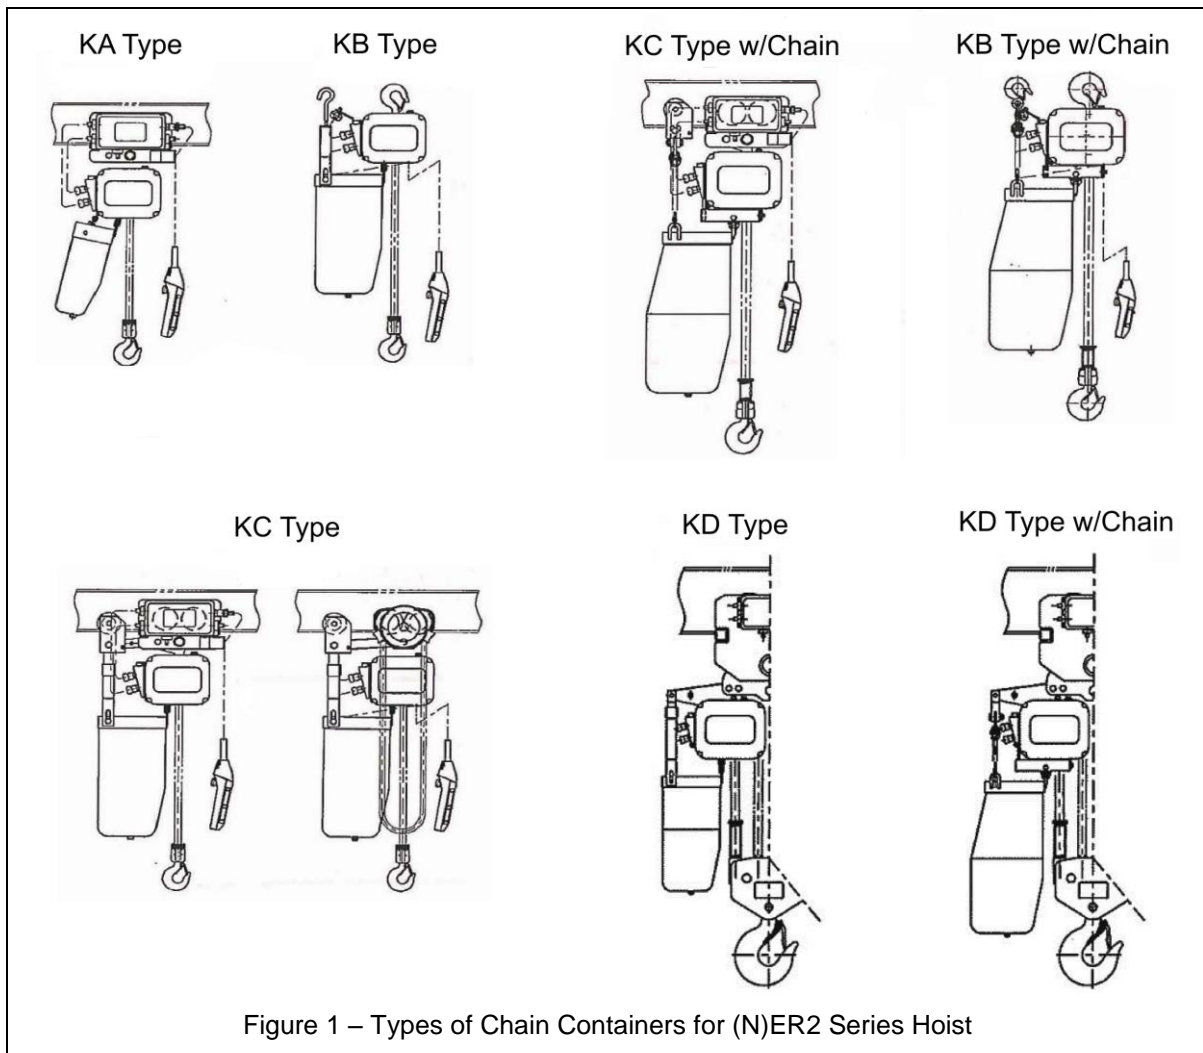

Figure 1 – Types of Chain Containers for (N)ER2 Series Hoist
There are four (4) types of steel chain container assemblies for use on the (N)ER2 Series Electric Chain Hoist, KA, KB, KC, and KD. Refer to figure 1 and the definitions that follow.